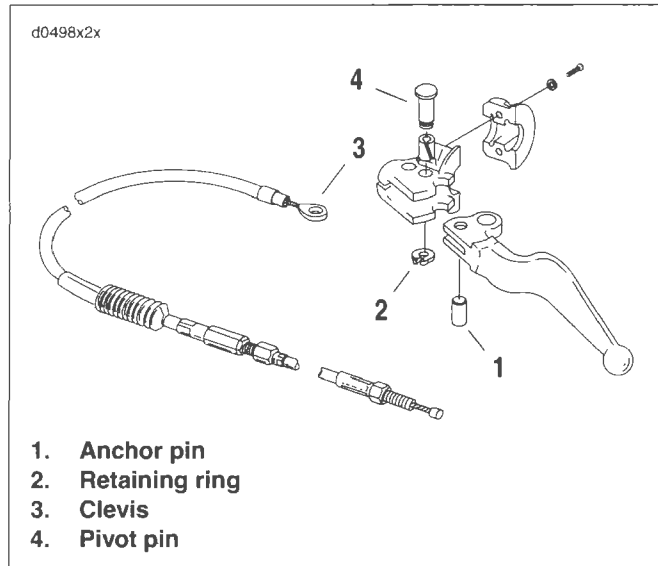

Figure 2-119. Clutch Cable Installation
2. See Figure 2-119. Remove the retaining ring (2) and pivot pin (4). Remove the clutch cable anchor pin (1) from the hand lever.
7. See Figure 2-119. Insert anchor pin (1) through handle and clutch cable clevis end (3).
8. Place handle in bracket and install pivot pin (4) and retaining ring (2).